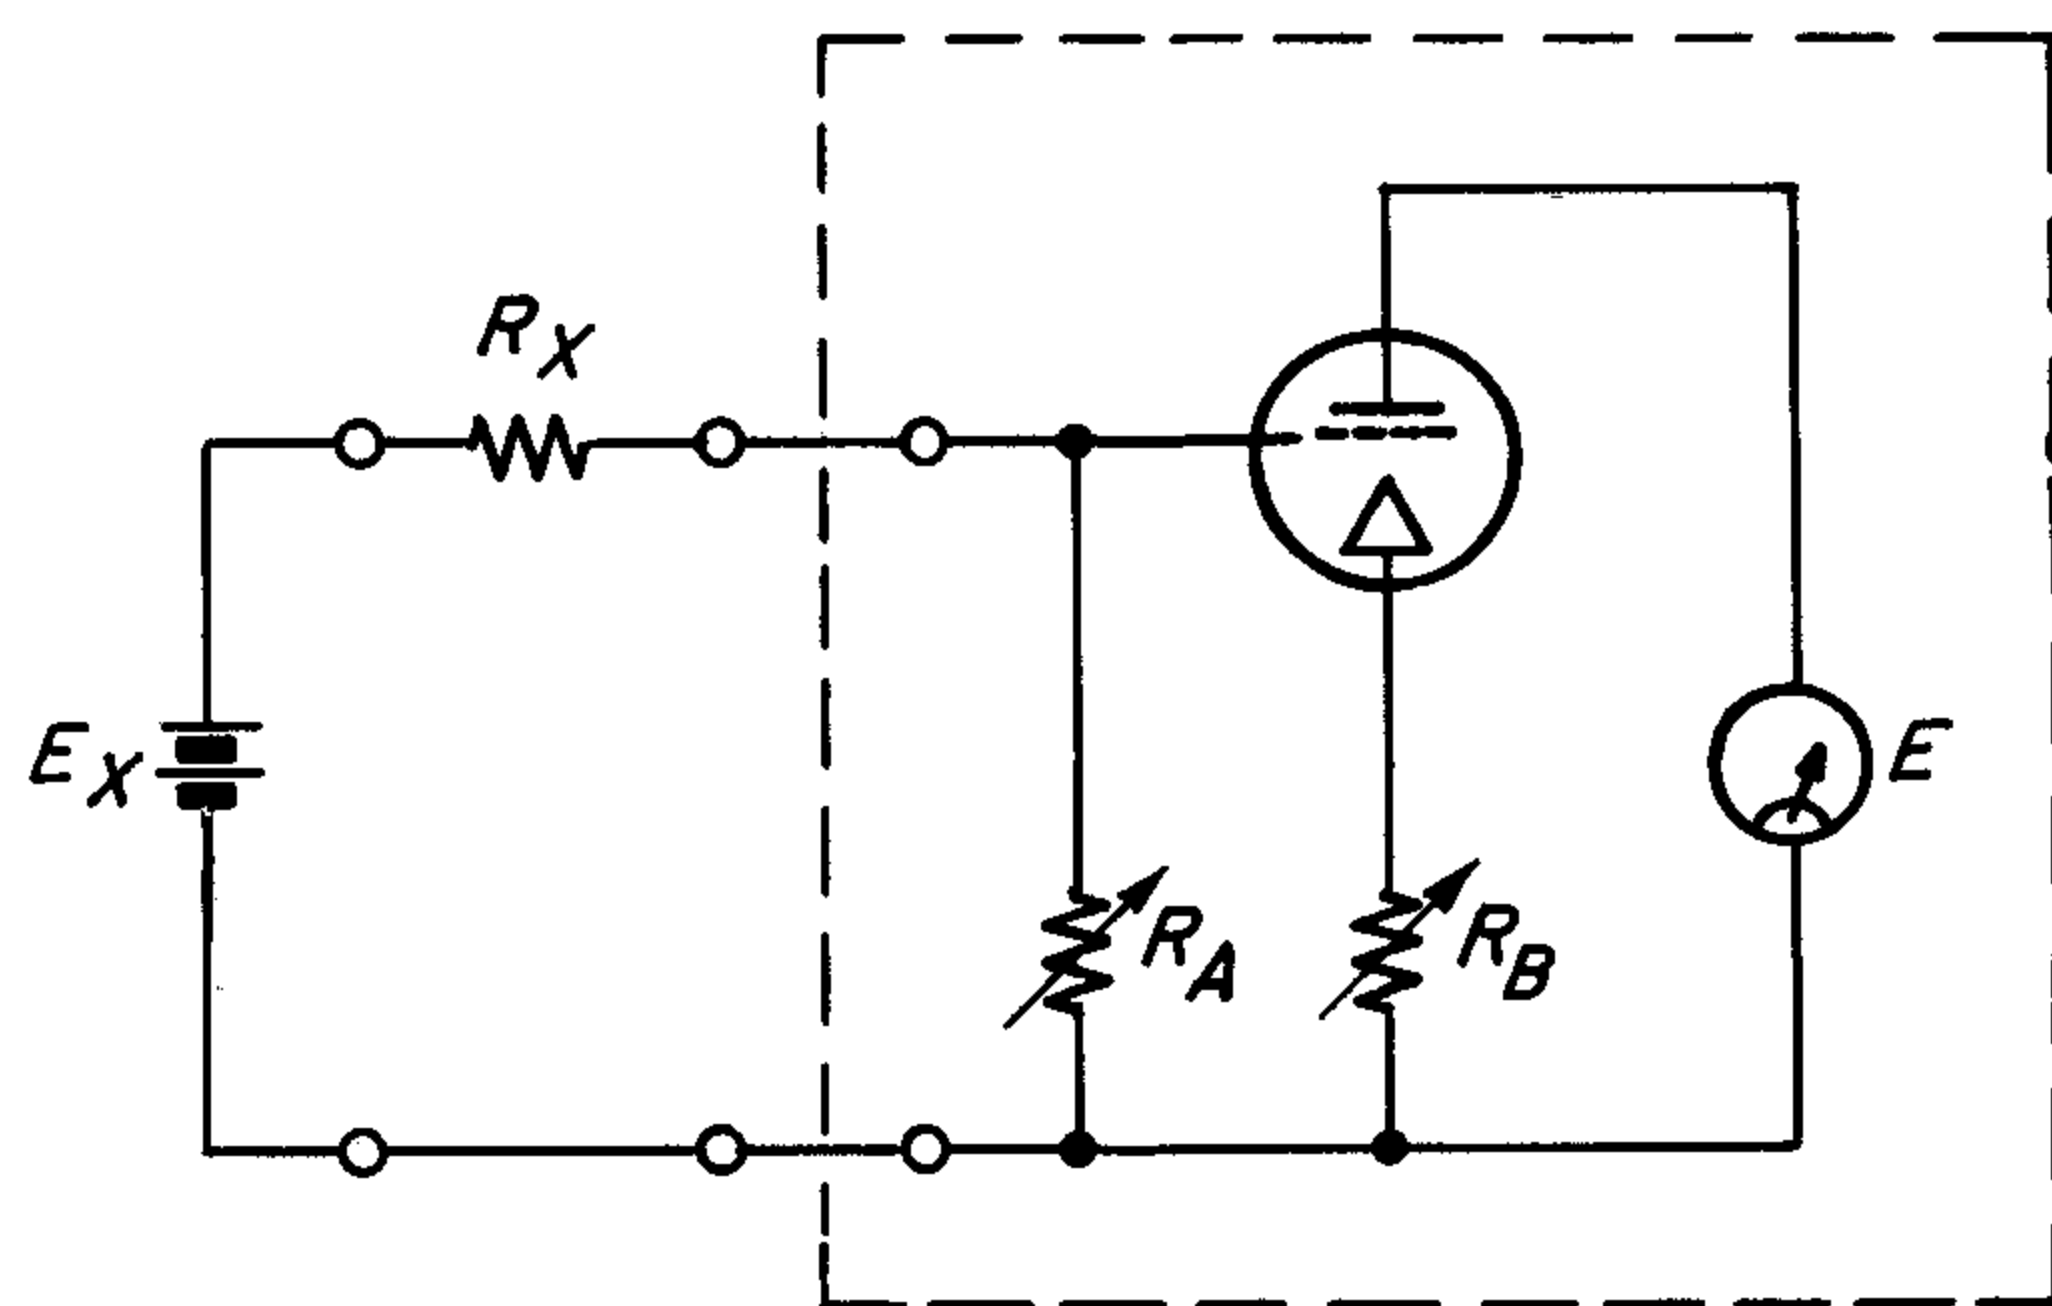

Figure 10. Connection for Measuring High Unknown Voltage.
4.8 HIGH-VOLTAGE MEASUREMENTS. Voltage measurements up to the kilovolt range can be made with the Type 1230-A Amplifier when an external resistance standard  $R_X$  is used. See Figure 10.